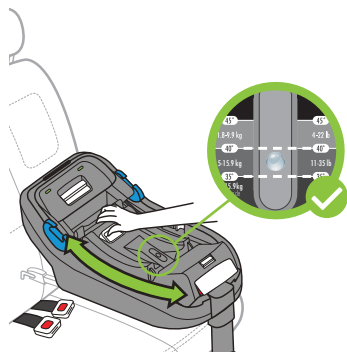

Figure 48
- Pull and hold Recline Sled Adjustment Handle and rotate Recline Sled, as shown on **Figure 48**, to the maximum recline adjustment position that keeps part of the bubble within the range specified on the Recline Indicator for the child's weight.